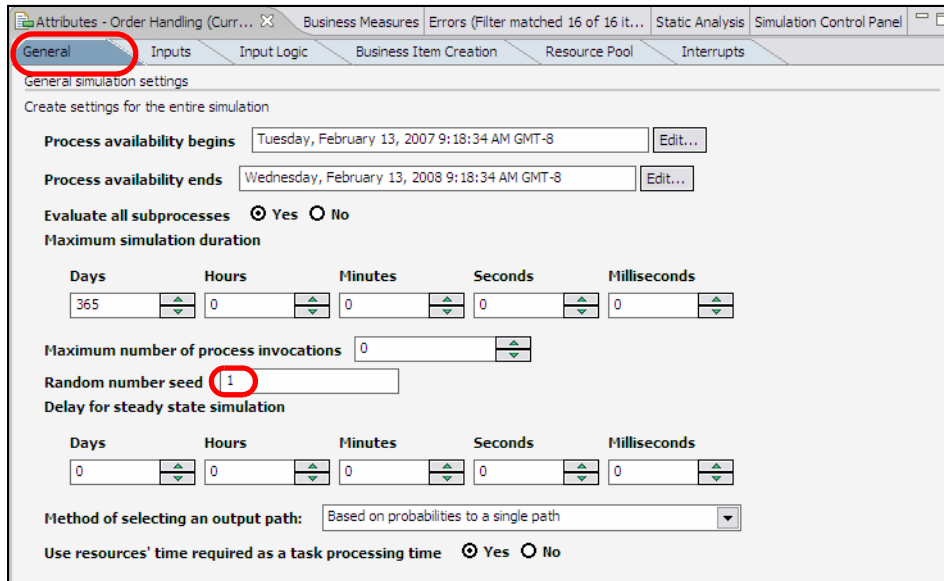

Figure 6-17 Simulation profile: General
- ▶ Populate the *General* tab (Figure 6-17):